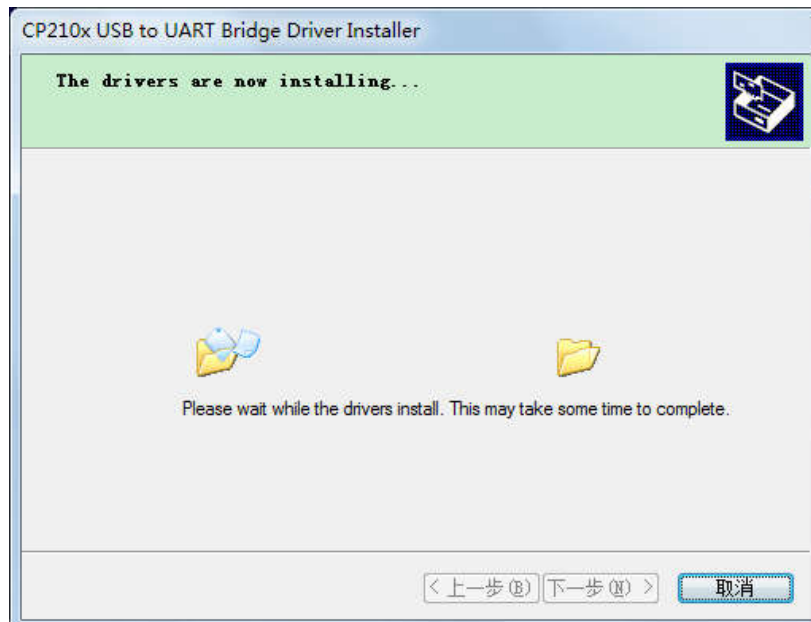

Figure 4-9 Installing window
8. During installation, the installation progress interface will appear, please wait for the installation to complete, as shown in Fig. 4-9.